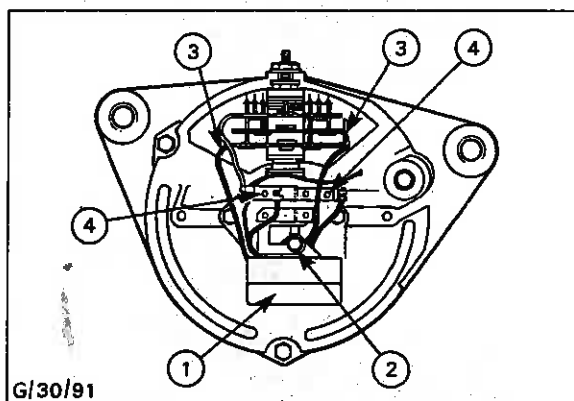

Fig. 48 - Replacing Regulator
4. Place regulator (1) in position and secure with screw (2). Refer to notes made when dismantling then connect two leads (3) to the rectifier. Place remaining two regulator leads in their correct positions on the brush box and secure with screws (4) - see Fig. 48.